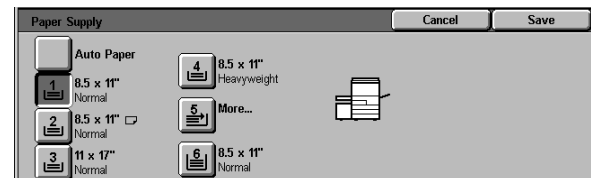

Figure 23: Paper Supply screen
- Touch the **More...** button to display the Paper Supply screen, Figure 23, with the five paper tray options.